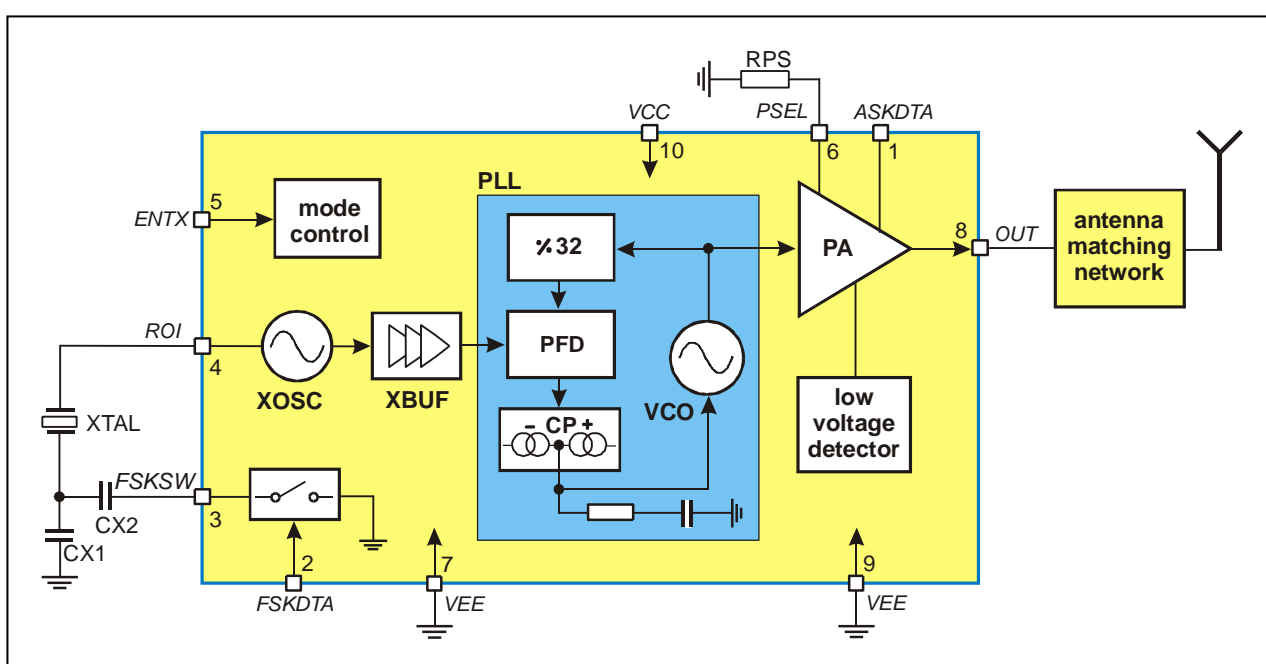

Fig. 1: Block diagram with external components
As depicted in Fig.1, the TH72035 transmitter consists of a fully integrated voltage-controlled oscillator (VCO), a divide-by-32 divider (div32), a phase-frequency detector (PFD) and a charge pump (CP). An internal loop filter determines the dynamic behavior of the PLL and suppresses reference spurious signals. A Colpitts crystal oscillator (XOSC) is used as the reference oscillator of a phase-locked loop (PLL) synthesizer. The VCO's output signal feeds the power amplifier (PA). The RF signal power  $P_{out}$  can be adjusted in four steps from  $P_{out} = -11$  dBm to +9.5 dBm, either by changing the value of resistor RPS or by varying the voltage  $V_{PS}$  at pin PSEL. The open-collector output (OUT) can be used either to directly drive a loop antenna or to be matched to a 50Ohm load. Bandgap biasing ensures stable operation of the IC at a power supply range of 1.95 V to 5.5 V.